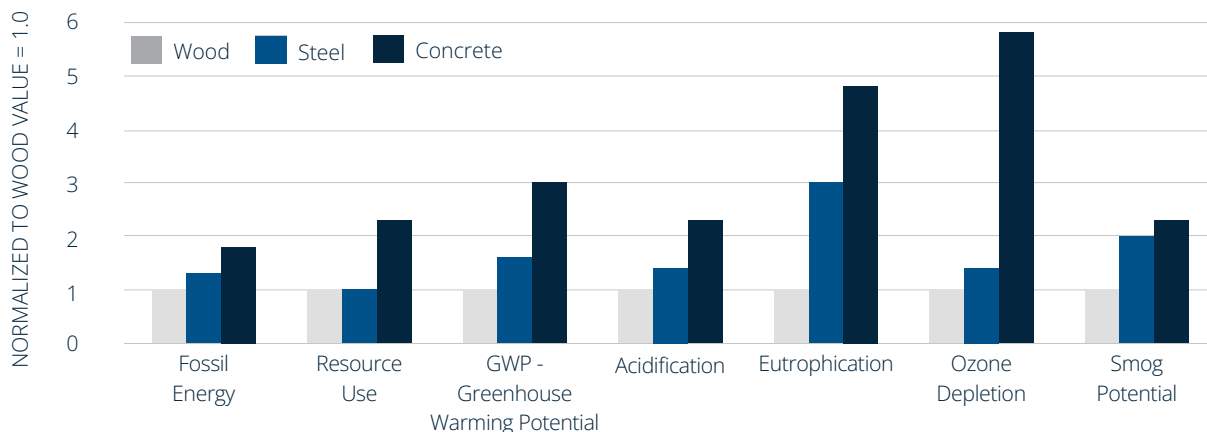

FIGURE 3: Normalized comparison of environmental impacts of wood, steel and concrete buildings
- Less energy is consumed in the production of mass timber components. By some estimates, wood conversion is as much as five times more efficient than cement for concrete and up to 20 times more energy efficient than the production of steel (see Figure 3).